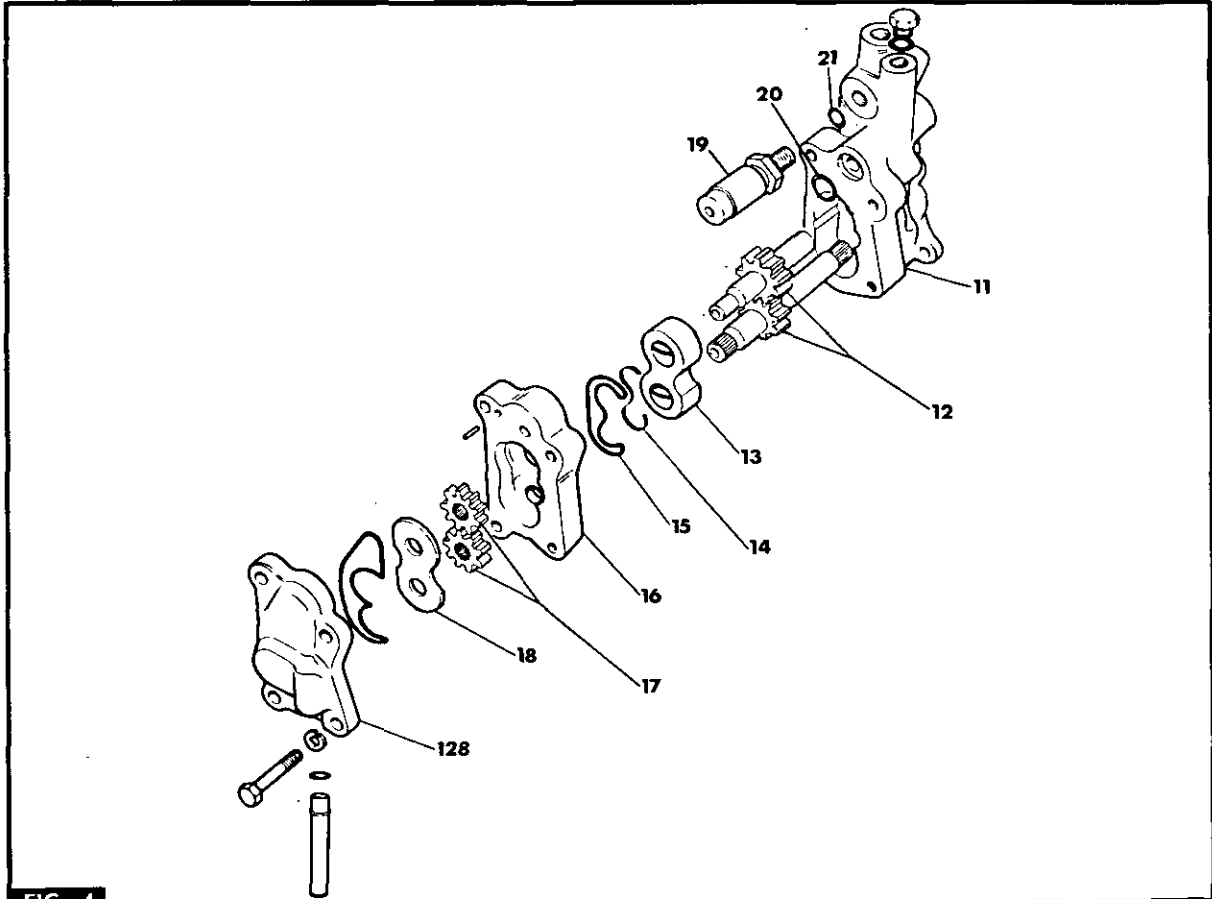

FIG. 4
2. Fig. 4. Remove the bearing plate (18).
4. Remove the body (16), complete with the gears (17) rubber seal (15) and P.T.F.E seal (14).
5. Remove the 'O' ring (20).
6. Remove the floating bearing (13) and the gears (12) from the body (11).
7. If necessary, remove the main relief valve (19) and the 'O' ring (21).
2. Fig. 4. Fit the gears (12) in the pump body (11).
3. Fit a new 'O' ring (20) to the pump body (11).
4. Fit the floating bearing (13) with its machined recess adjacent to the gears and the relieved radii on the outlet side of the pump. Check that the floating bearing is 0,05 to 0,13 mm (0,002 to 0,0055 in) below the face of the pump body.
5. Fit a new seal (15) to the centre body (16), then fit the new P.T.F.E. seal (14) between the OUTER edge of the rubber seal and the pump body.
7. Refit the gears (17) on the shafts, aligning the marks on the shaft.
8. Refit the bearing plate (18) ensuring that the machined recess is adjacent to the gears. Check that bearing plate is 0,05 to 0,18 mm (0,002 to 0,007 in) below the face of the centre body.
9. Refit the pressure relief valve (19) using a new 'O' ring (21).